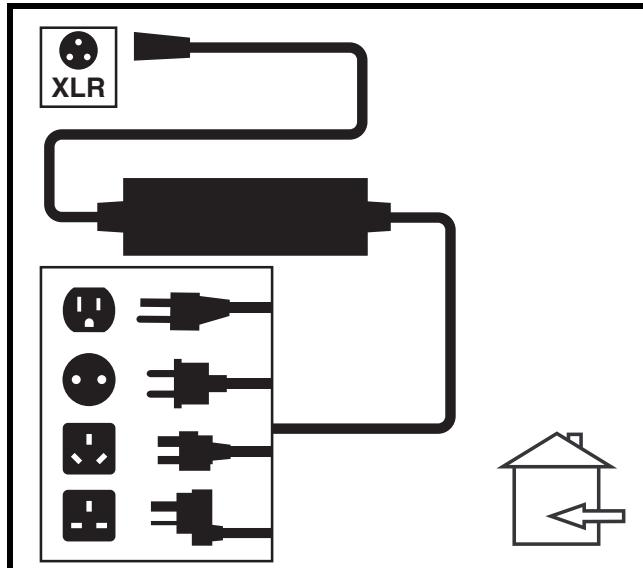

Figure 22. Battery Charging
3. Plug the off-board charger into the off-board charger/programming socket on the controller. See **figure 22**.